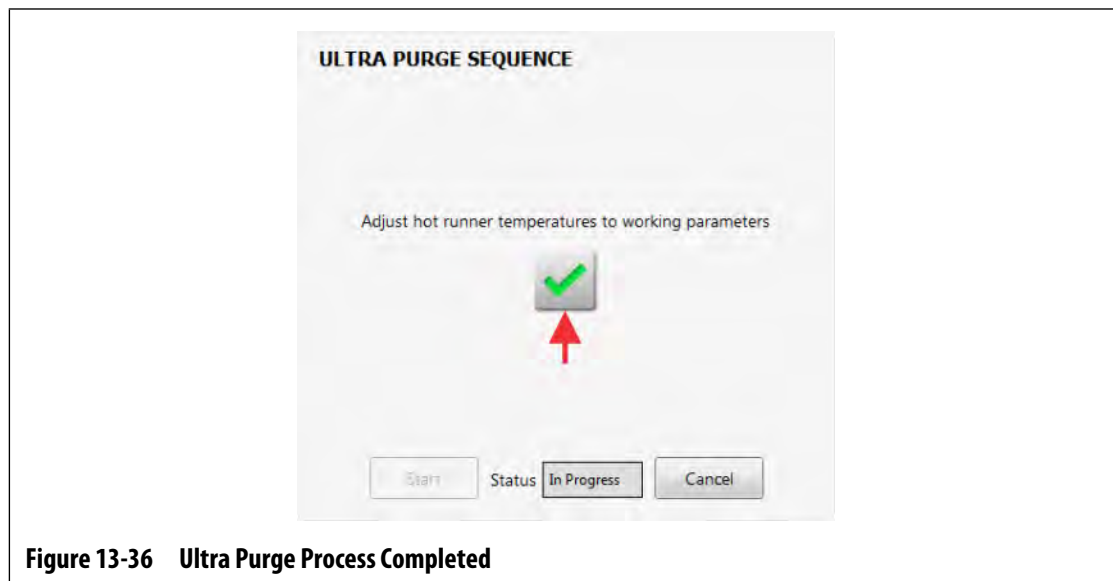

Figure 13-36 Ultra Purge Process Completed
25. When the temperatures are at their parameter settings, touch the green check mark button to continue (refer to Figure 13-36.)